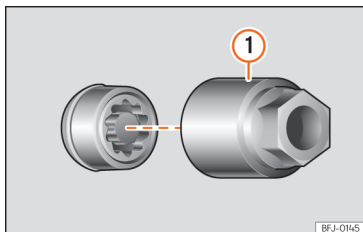

Fig. 189 Anti-theft wheel bolt with cap and adapter.
- Insert the special adapter >>> Fig. 189 ① (vehicle tools >>> page 242) onto the anti-theft wheel bolt and push it on as far as it will go.